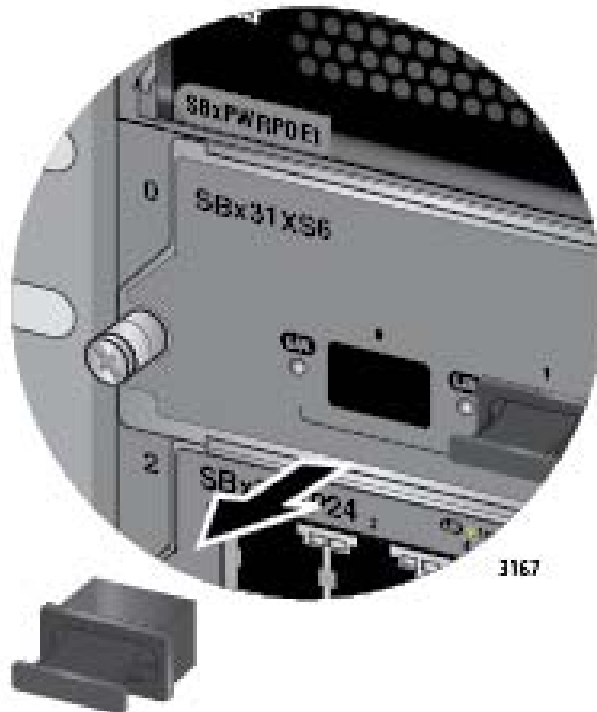

Figure 92. Removing a Dust Cover From an SFP+ Slot in the AT-SBx31XS6 Line Card
1. Remove the dust plug from the slot chosen for the SFP+ transceiver, as shown in Figure 92.
1. Remove the dust plug from the SFP+ slot chosen for the cable, as shown in Figure 92 on page 155.